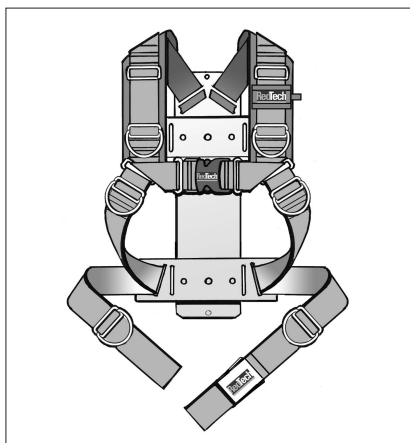

Figure 2: Harness, Impulse, Explorer
- QSS with chest clasp as a standard for models **Impulse** and **Explorer** (Figure 2)